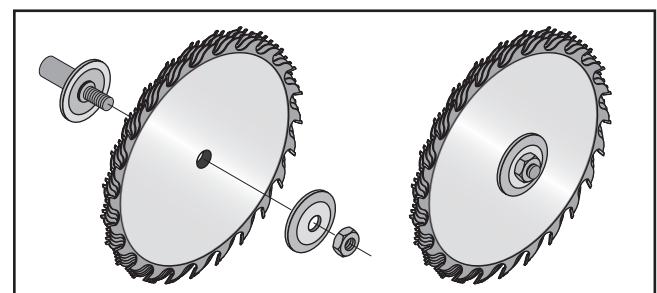

Figure 69. Installing a dado blade.
6. Install the dado blade on the arbor shaft, as shown in **Figure 69**.